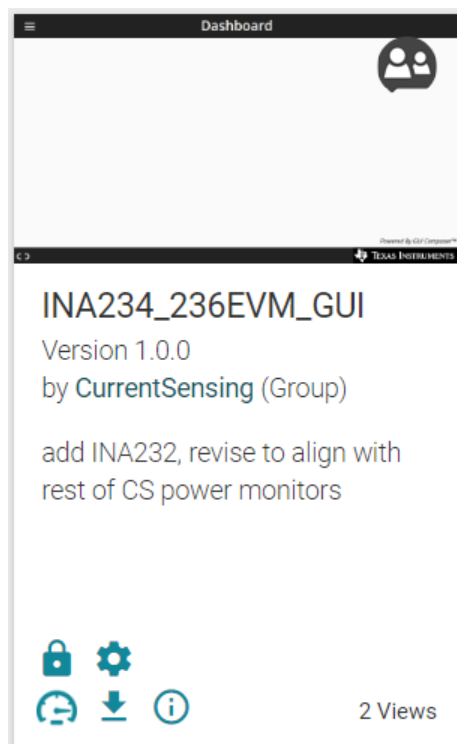

Figure 4-4. GUI Composer Application
3. Click the *GUI Composer* application (Figure 4-4) to launch the GUI from the web browser.
4. Optionally, click the  icon in the *GUI Composer* application (Figure 4-4) and follow the prompts to download the GUI for offline use.